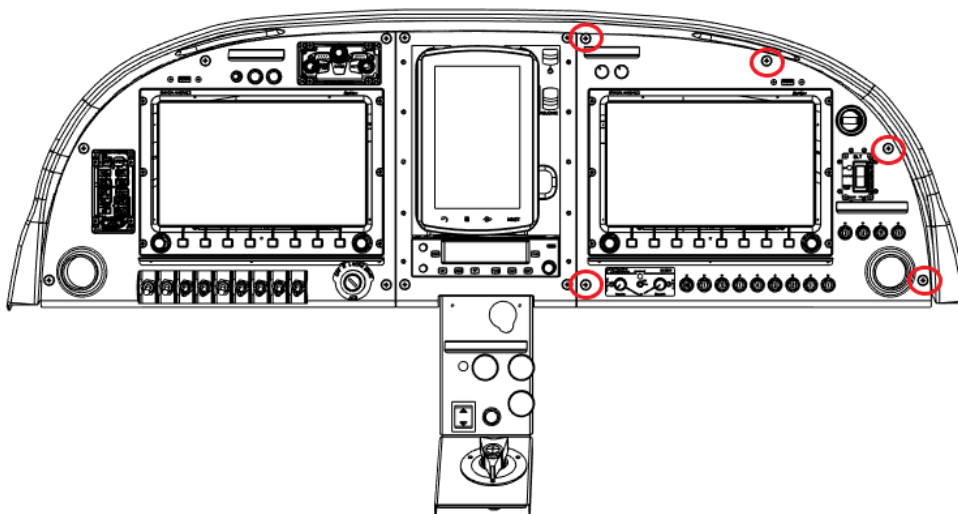

Fig. 2: Screws on the dashboard
- 3) Loosen the screws on the dashboard (see Fig. 2).